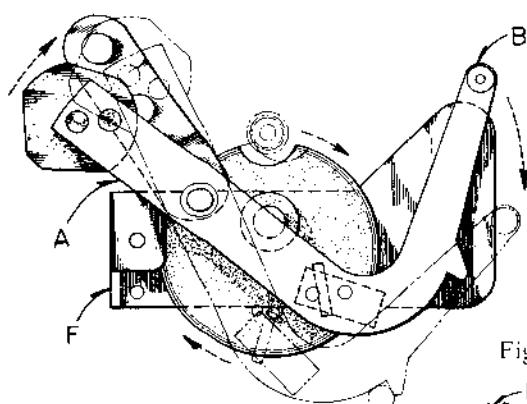

Fig. 5-6
In Fast Forward and Rewind modes, the same operation takes place except that Lever (H) works to push back the FF, Rewind Shaft to "Stop" position. (See Figs. 5-6 to 5-9)